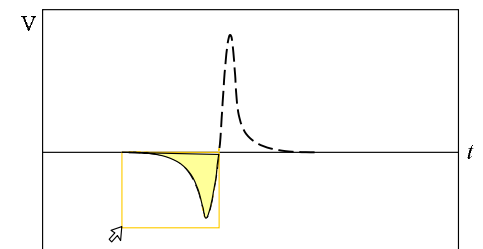

Figure 8
- 5) In order to find the area under the Voltage vs. time curve, carefully highlight your data as shown in Figure 8. Be sure to grab the entire “tail” of the curve, as well as all of the data up to the $V = 0$ mark, where the voltage becomes positive again. Note: unless you have a data point precisely on the t-axis, you will either have to stop highlighting at the data point just before or just after the voltage becomes positive. For best results, choose the data point that is closest to the t-axis as your last highlighted data point. Then select “Area” from the “Σ” drop-down menu. A box should appear with a calculated value for the area under the highlighted portion of the curve. Record this value in the table, and then calculate Φ using the formula above and record as well.